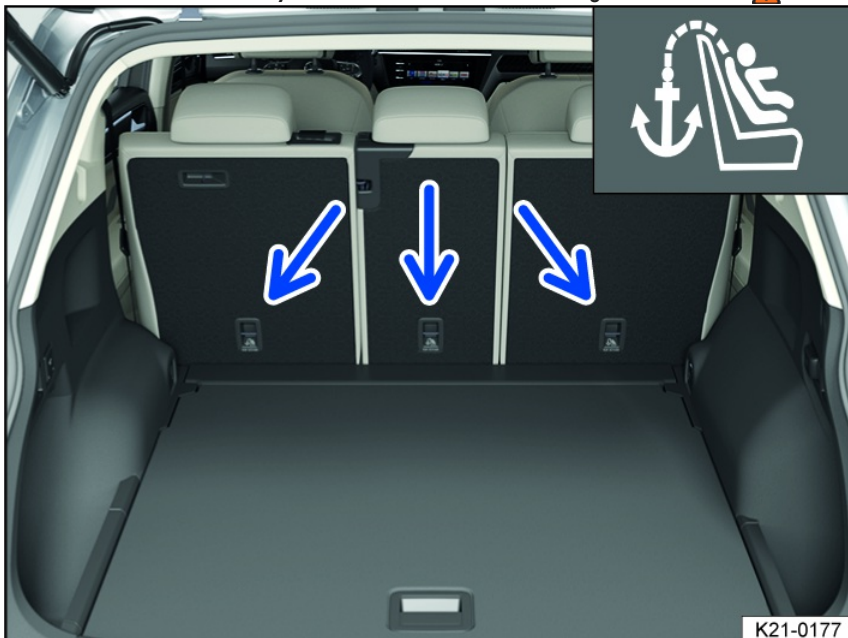

Fig. 45 On the back of the second-row seats: Top tether anchorages for the top tether safety belt.
The anchorages suitable for top tether are labeled with a symbol and may have the label “TOP TETHER” fig. 45. Fasten the top tether safety belt only to the top tether anchorages designed for this purpose.
6. Locate the top tether anchorage for the respective seat fig. 45.